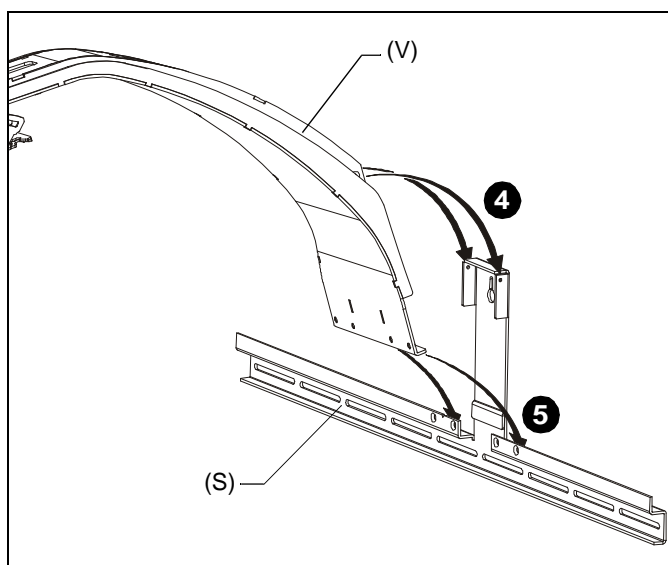

Figure 3
4. Lower boom projector mount (V) onto wall bracket (S) matching two fastener holes in upper arm with holes in upper wall bracket. (See Figure 3)
5. Align four fastener holes along bottom of boom projector mount with four holes in wall bracket. (See Figure 3)